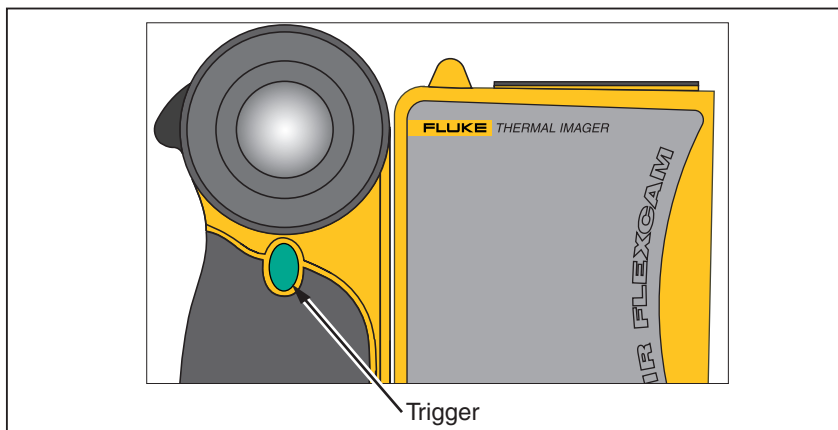

Figure 1-8. Capturing an Image
1. Tap  once (shown in Figure 1-8) to pause the live image.